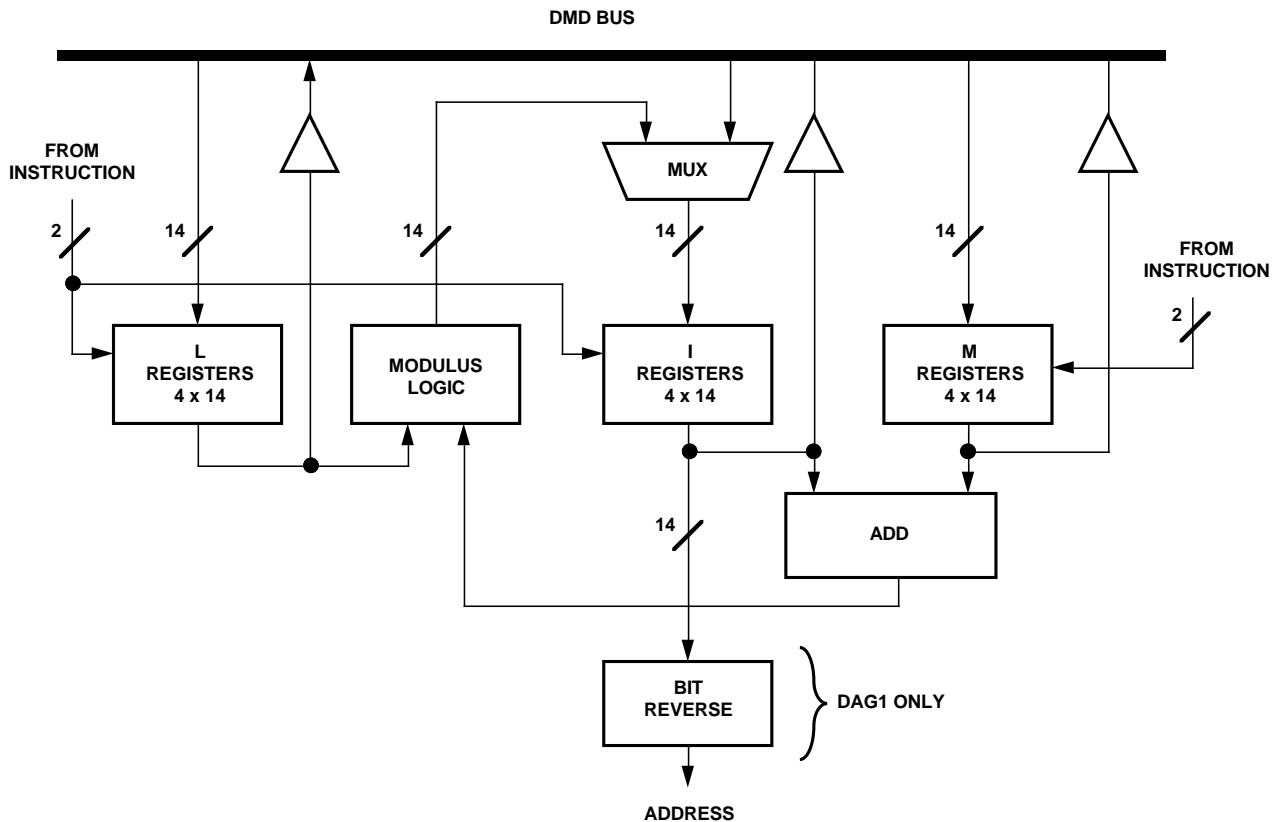

Figure 4.1 Data Address Generator Block Diagram
Figure 4.1, on the following page, shows a block diagram of a single data address generator. There are three register files: the modify (M) register file, the index (I) register file, and the length (L) register file. Each of the register files contains four 14-bit registers which can be read from and written to via the DMD bus.